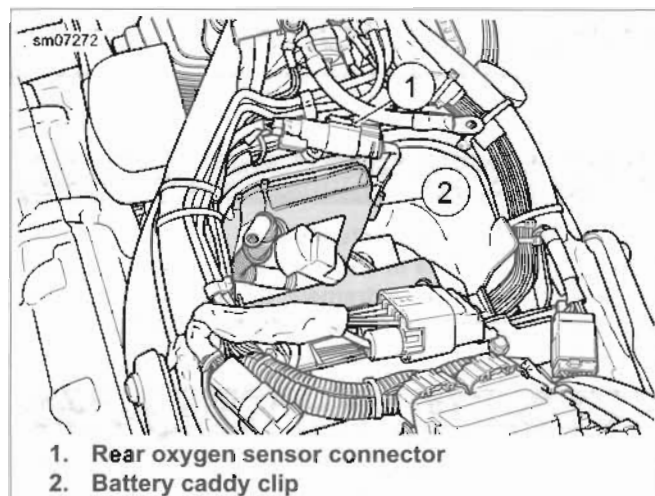

Figure 4-29. Rear O2 Sensor Connector
3. See Figure 4-29. Disconnect rear O2 sensor connector (1).
3. See Figure 4-29, install rear oxygen sensor connector (1) and place harness in battery caddy clip (2).